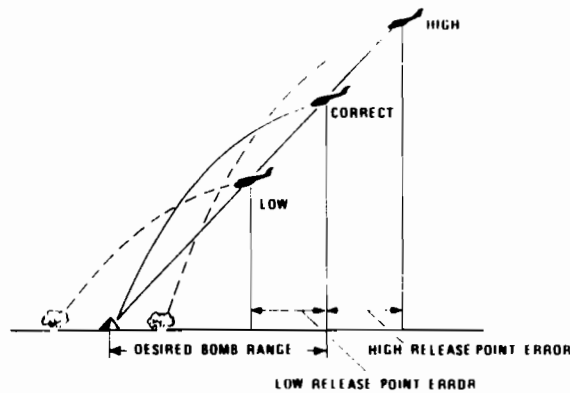

Figure 6-11
b. Altitude. Ordnance release at lower than the preplanned altitude will result in a long impact because the slant and horizontal ranges will be reduced by a greater amount than the bomb range is reduced. The reverse is true for releasing higher than planned (Figure 6-11).